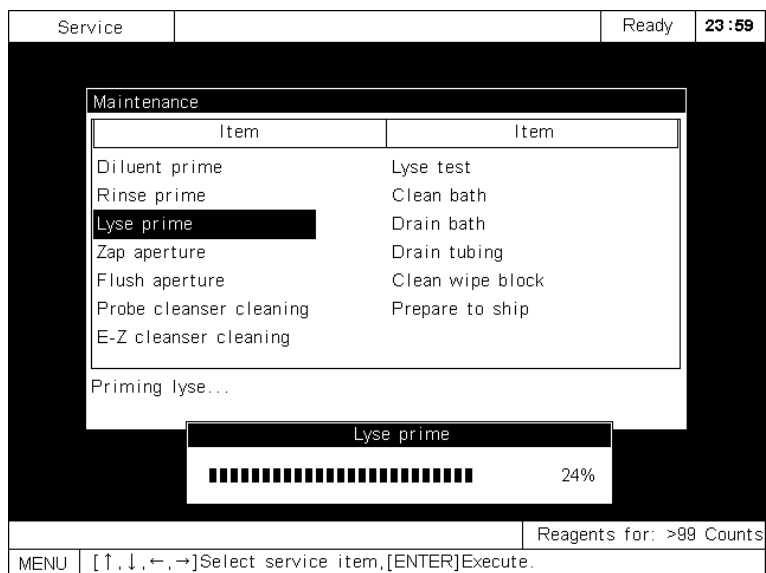

Figure 8-5 Priming tubing with lyse
- Press [ENTER] to prime the tubing with lyse and the priming progress will be displayed at the bottom of the screen, as Figure 8-5 shows.